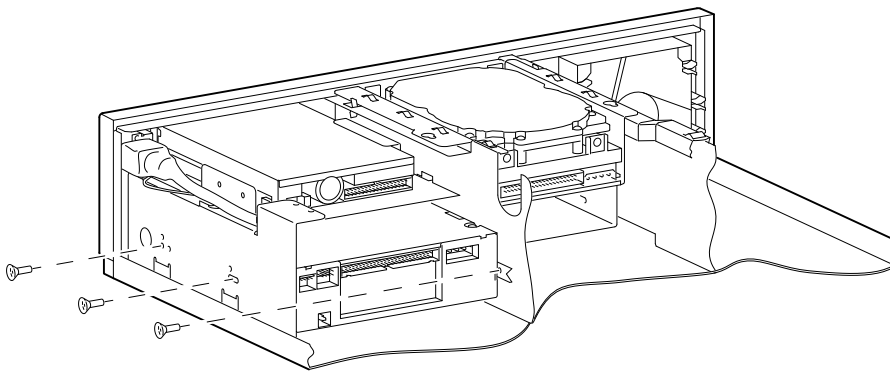

Figure 3-19. Securing Drive
6. Slide the drive into the system unit, securing it with two screws on right side and one screw at back of holder on the left, as Figure 3-19 shows.